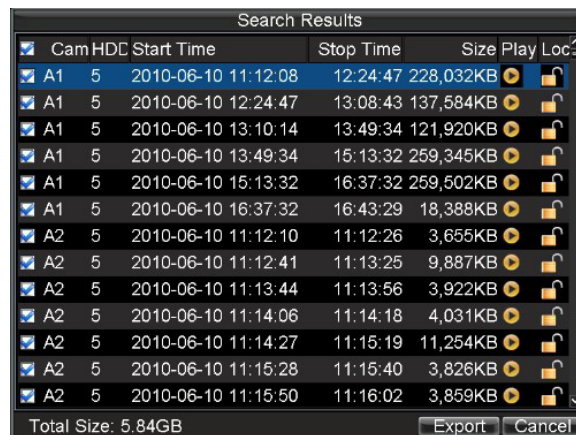

Figure 2. Video Search Results
4. Select the files to export, as shown in Figure 2. You may also click the *Play* button to confirm the record file you want to export.